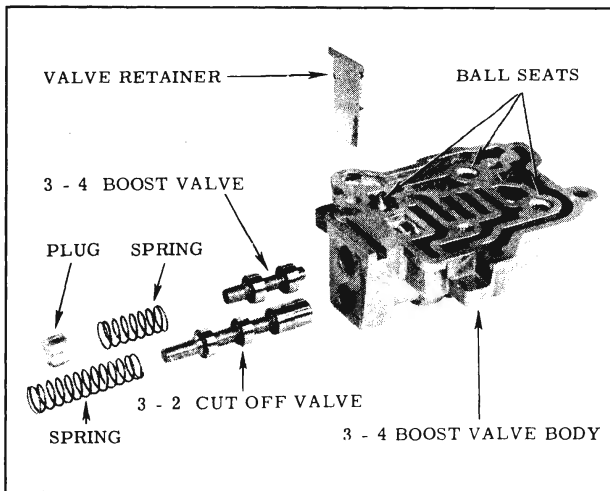

Fig. 3-87 3-4 Boost Body Assembly
### DISASSEMBLY OF 3-4 BOOST BODY (Fig. 3-87)
**ASSEMBLY OF 3-4 BOOST BODY (Fig. 3-87)**